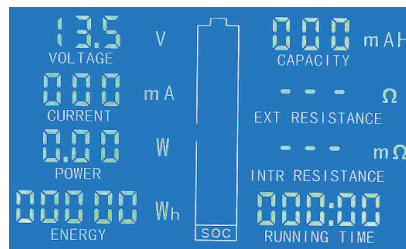
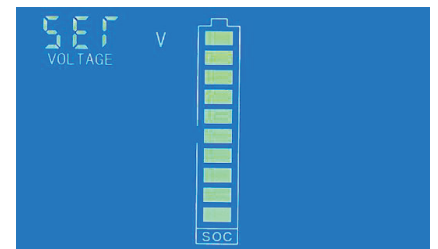
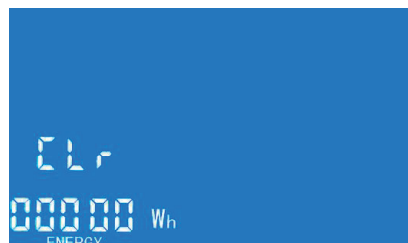

Figure 1: the normal display interface
Figure 2: the voltage setting interface
Figure 11: Clear the running time interface
• Step 1: In the normal display interface (like fig.1), long press the button until the LCD screen display the interface like fig. 2, then release the button
- Step 1: In the normal display interface, long press the button until the LCD shows the interface of Figure 2, then release the button, short press the button again switch to the interface to Figure 7, it indicates that this state is the current range setting state.
- Step 1: In the normal display interface, long press the button until the LCD shows the interface of Figure 2, then release the button, short press the button again switch to the interface to Figure 9, it indicates that this state is the clearing energy reading.
- Step 1: In the normal display interface, long press the button until the LCD shows the interface of Figure 2, then release the button, short press the button again switch to the interface to Figure 10, it indicates that this state is the clearing capacity reading.
- Step 1: In the normal display interface, long press the button until the LCD shows the interface of Figure 2, then release the button, short press the button again switch to the interface to Figure 11, it indicates that this state is the clearing running time reading.